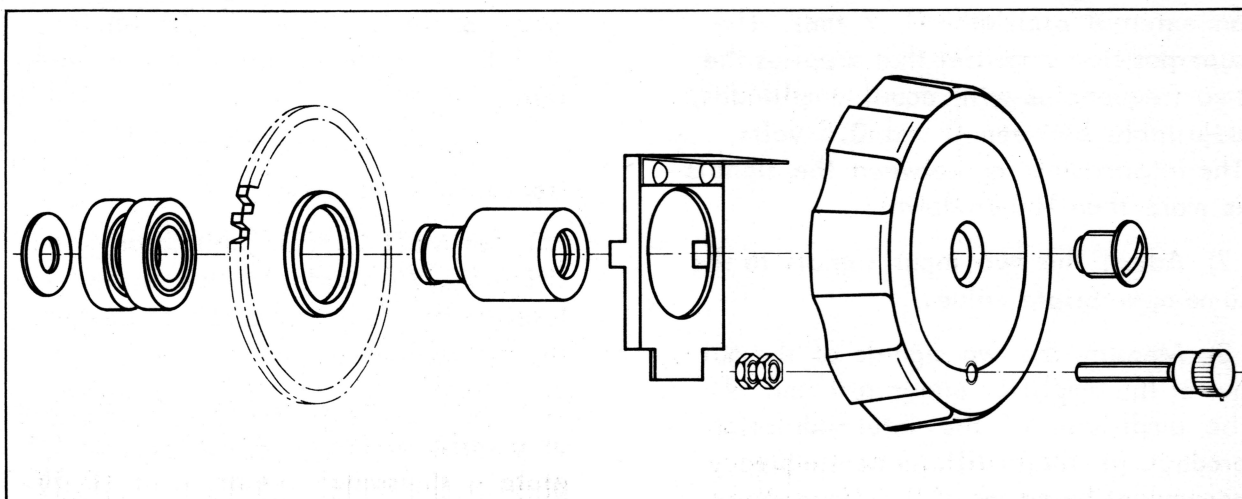

Fig.12. Disassembled frequency knob of the Wave Analyzer, type FRA3.
5) Remove the metal insert now visible by unscrewing the two grub screws. (See Fig. 12).